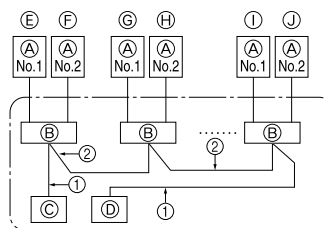

Fig. 6-2
6.1. Outdoor unit (Fig. 6-1, Fig. 6-2)
- Wire the cables referring to the Fig. 6-1 and the Fig. 6-2.